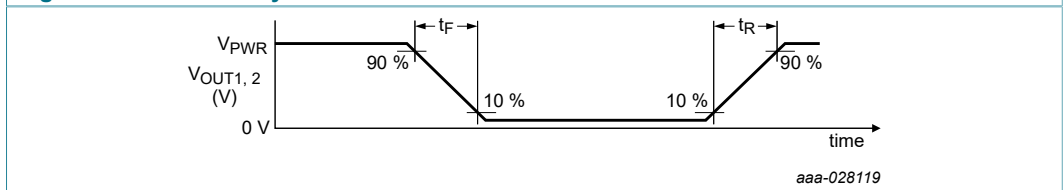

Figure 7. Output switching time
- [7] Rise time is from the 10 % to the 90 % level and fall time is from the 90 % to the 10 % level of the output signal with VPWR = 14 V, RLOAD = 3.0 Ω. See Figure 7.